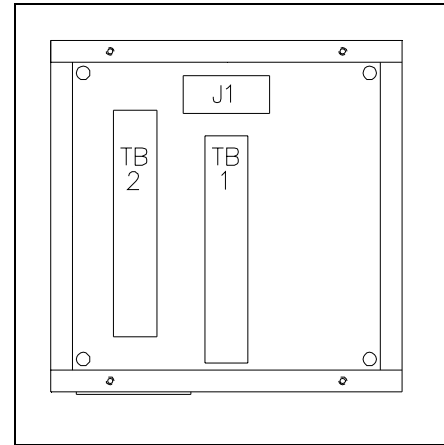

Figure 1. Indoor Enclosure
1. Remove and discard the harness assembly (TB1), the connector (J1), and the associated hardware. See Figure 1.